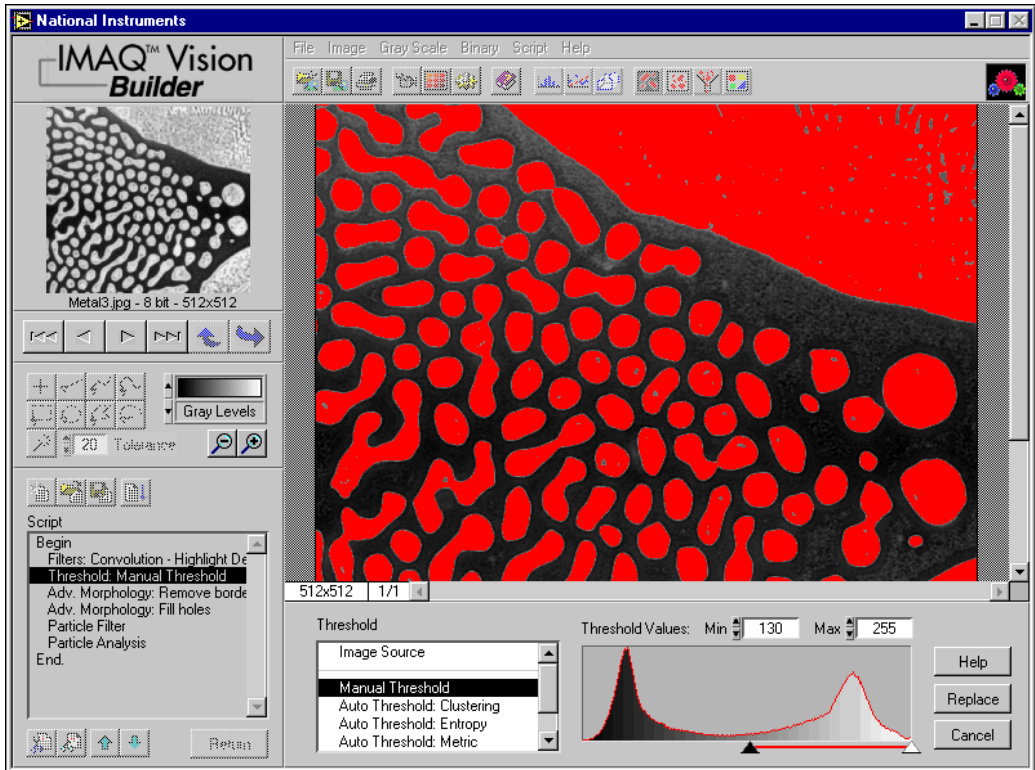

Figure 3-7. Testing the Blob Analysis Script
5. Double click the Threshold step in the script window to open the threshold parameters. Figure 3-7 shows `Metal3.jpg` at the thresholding step of the script.